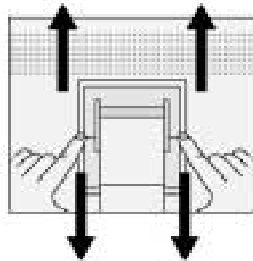

Figure S.2
4. Press the "▼" portion with your index finger and at the same time slide the lower stand cover. (**Figure S.2**)